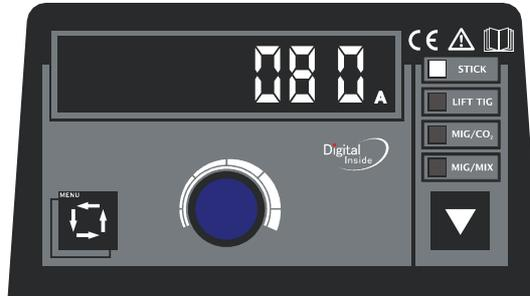

Fig. 2 Preset current display with VRD enabled under STICK mode
- When under STICK mode, pressing the **【VRD/2T/4T switch key】** for 5 second to selection the VRD function, the function is enabled when the indicator lights up, and displays in **【multifunctional data display】**. Or, the VRD function is disabled when the indicator is off as shown in Fig. 2.